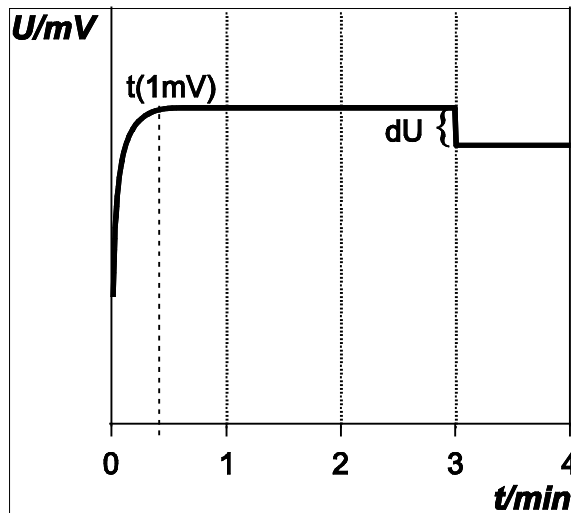

Fig. 14: Diagram showing changes in potential during an electrode test
- A correct **outflow of the inner electrolyte** causes only a minimum potential drop when the stirrer is turned of (see Fig. 14). A large drop indicates a too small outflow - the diaphragm is blocked. If you obtain a potential step-up, the outflow is too high and should be corrected.